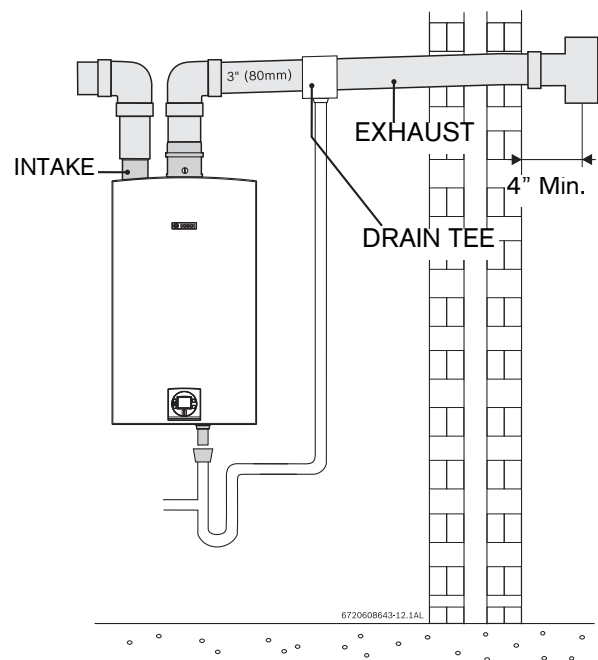

Fig. 14 Horizontal venting system (single pipe penetration*)
- Attach the combustion air inlet accessory to the top of the unit Fig. 14 (position 2) using the 3 screws and gasket provided, and install 3" air intake pipe over the accessory.